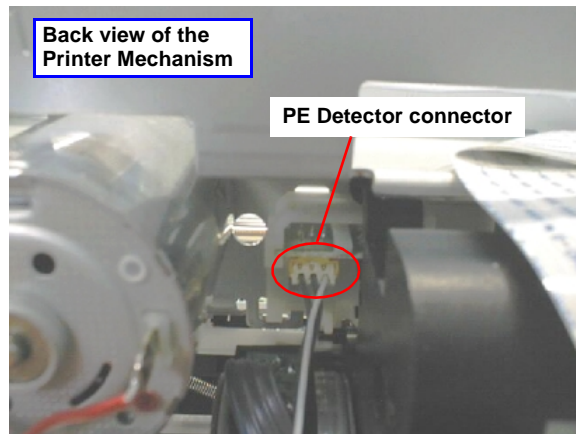

Figure 4-68. Removing the PE Detector connector
- 5) Disconnect the PE Detector connector from the PE Detector Circuit Board. Refer to Figure 4-68.